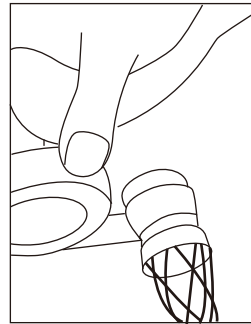

Fig. 3
4. Add a few wraps of electrical tape around Lock Rings for added protection (Fig 3).